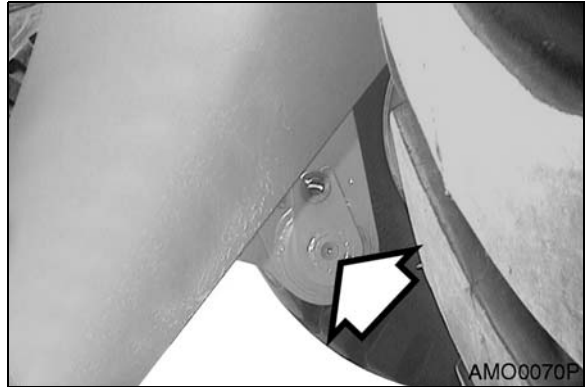

Figure 29
- Lever link connecting pin, 1 location (Figure 29).